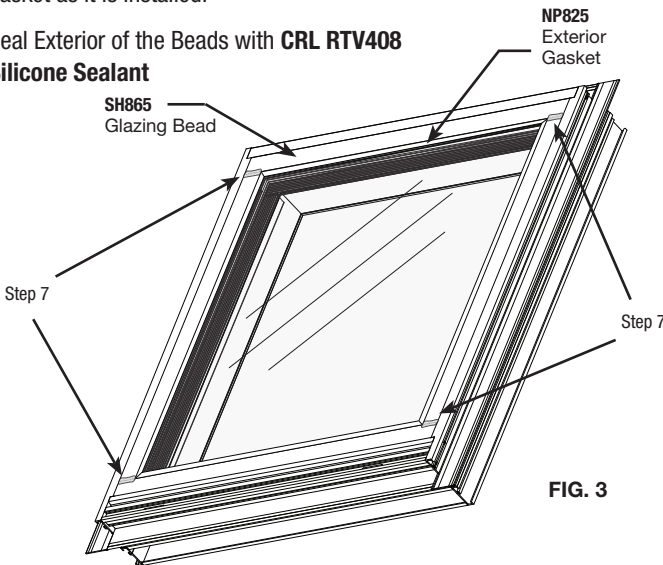

FIG. 3
Step 5: Cut and insert each **SH865** Glazing Bead. **Figure 3**